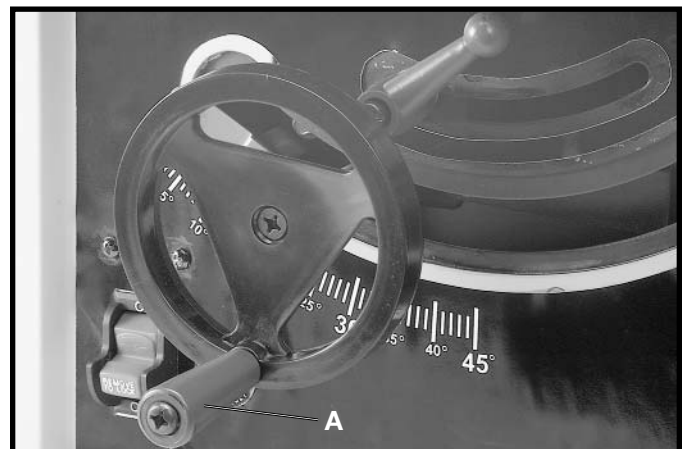

Fig. 33
To raise or lower the saw blade, turn handwheel (A) Fig. 33. Turning the handwheel clockwise lowers the blade and turning the handwheel counterclockwise raises the blade.